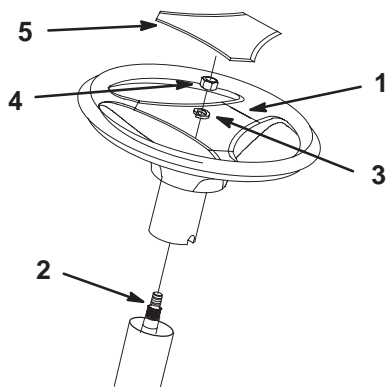

Figure 1
3. Line up the center spoke toward the seat and position the steering wheel onto the shaft spline (Fig. 1).
4. Secure the steering wheel with a lockwasher and nut (Fig. 1).
6. Snap the logo cover into place (Fig. 1).